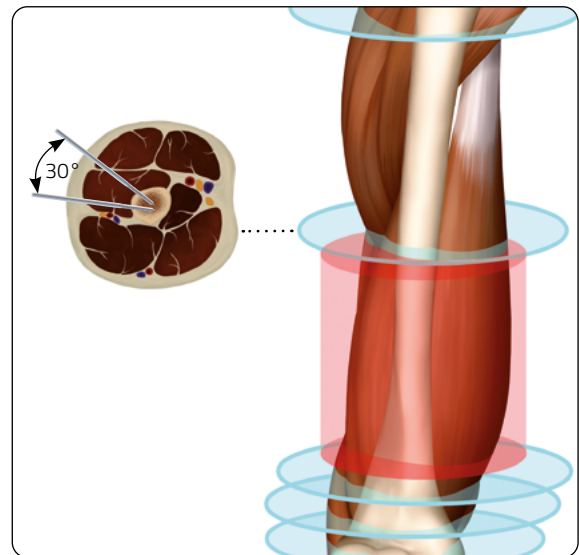

Fig. 2
1) Cleaning of the joint might be necessary prior to the application of the Elbow Distractor. Expose the lateral aspect of the Humerus by blunt dissection in order to avoid damage to the radial nerve, taking into account that the proximal screws are inserted first, on the antero-lateral side, at an angle of 10-15° to the frontal plane (**Fig. 2**).